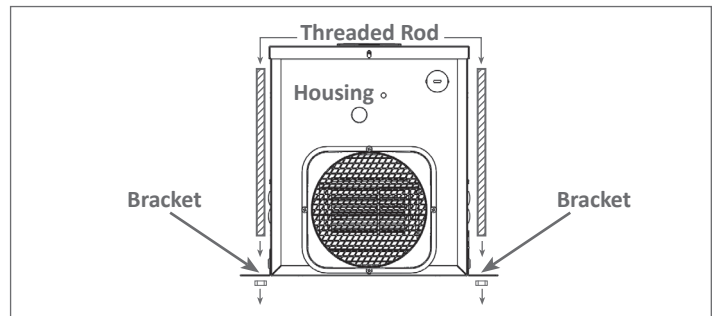

Figure 3 - Mounting ventilator using hanging rods
- c. Hanging Rods Mounting: Lift unit up onto the threaded rods and secure in place using appropriate hardware (not included). Threaded rods must each be a minimum of 24" in length (Figure 3). The installation shown in Figure 3 is upside down when installing to the threaded rod